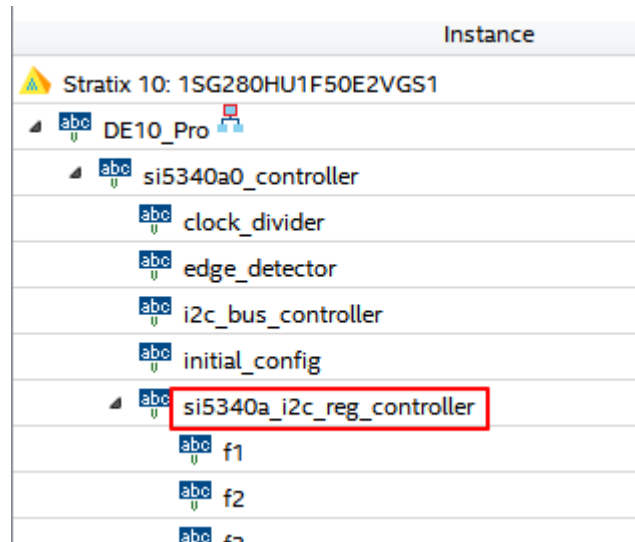

Figure 5-6 Sub-Module file "si5340a_i2c_reg_controller.v"
- Open Si5340 control IP sub-module “si5340a_i2c_reg_controller.v” as shown in **Figure 5-6**, refer to Design Report parameter to modify sub-module corresponding register value (See **Figure 5-7**).